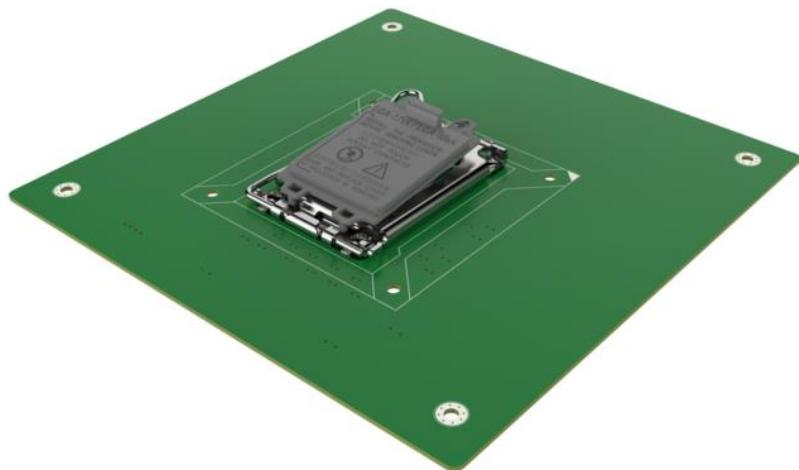

Figure 4-5: Engage The Load Lever
Step 9: Engage the load lever by pushing it back to its original position. There will be some resistance, but will not require extreme pressure. See **Figure 4-5.**